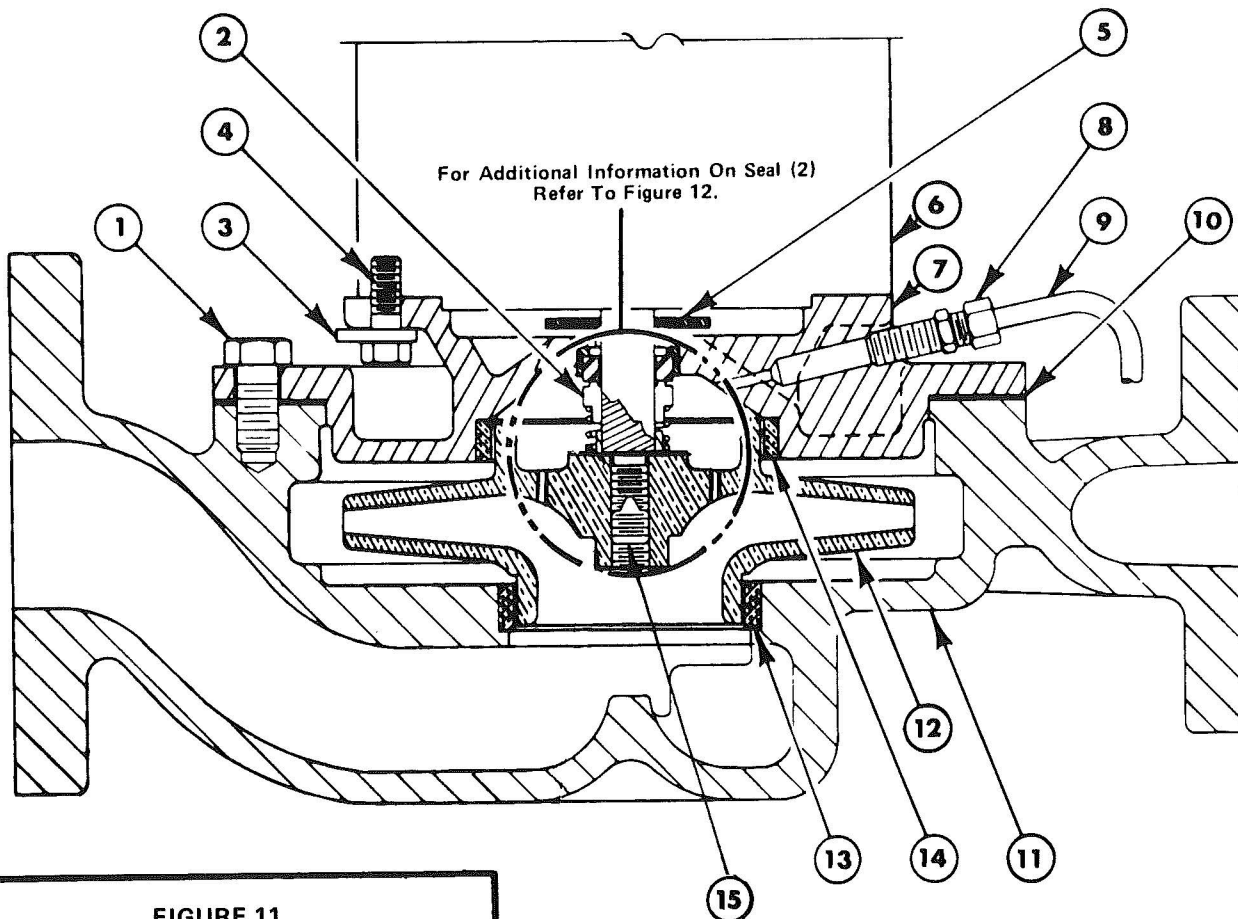

FIGURE 11
16. Brush both sides of gasket (14) with Teflon paste and position it on the sleeve (12).
17. Replace key (2) in keyway and slide impeller (13) onto shaft.
18. Brush both sides of gasket (15) with Teflon paste and place on impeller. Place the sealing washer (19) and washer (20) on the impeller cap screw (18) and tighten onto the shaft.
19. Place gasket (10) on head (7) and assemble it to the case (11) using 9 hex head cap screws (1).
D. A7A/PM7A PUMP DISASSEMBLY AND ASSEMBLY (REF. FIG. 11 & 12) WITH JET PUMP MOTOR